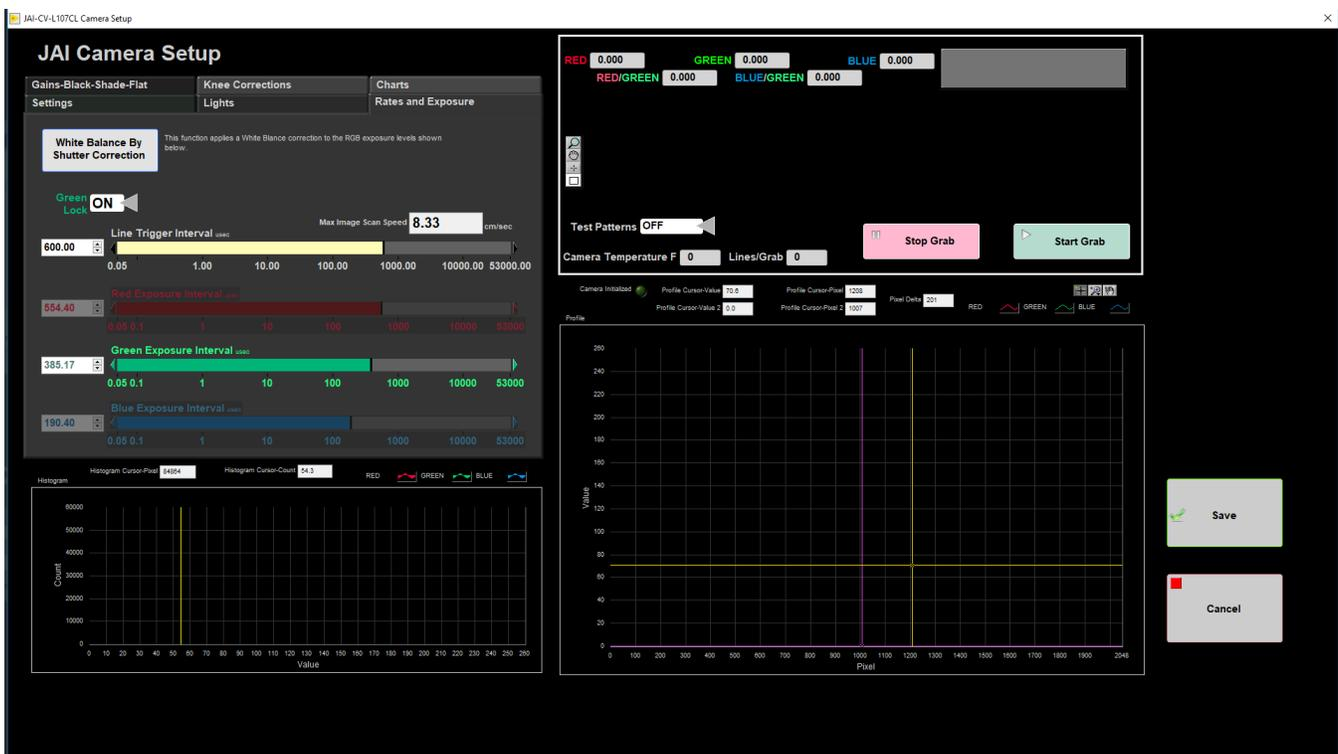

Figure 22. Rates and Exposure window
3. Select the Rates and Exposures tab (Figure 22).